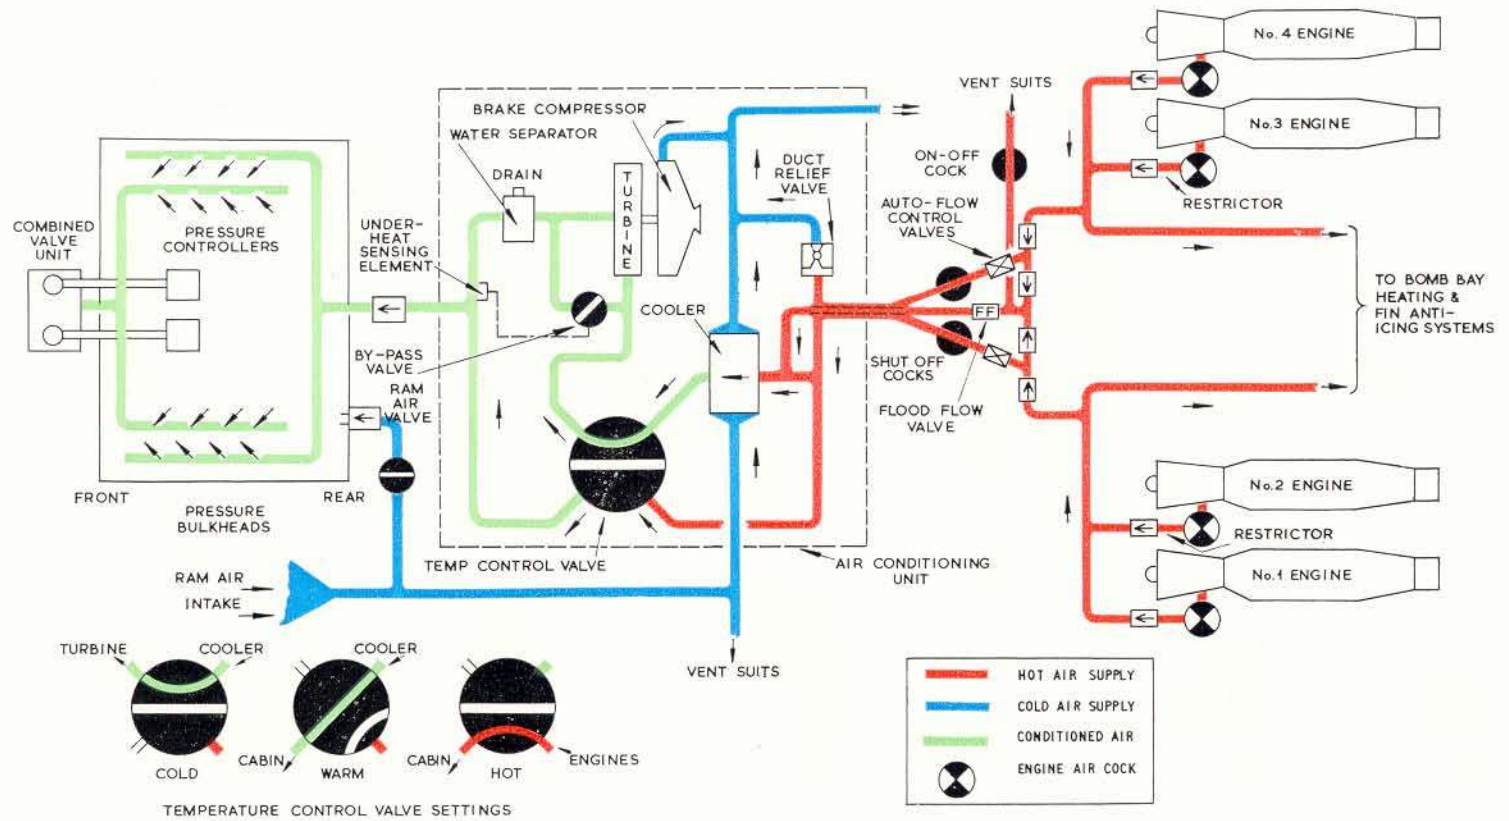

Fig. 1 Cabin Pressurising and Air-Conditioning
- (i) The mass flow control system consists of automatic flow controllers, which combine shut-off valves, in the triangular ducting assembly (see Fig. 1) at the rear of the nosewheel bay.